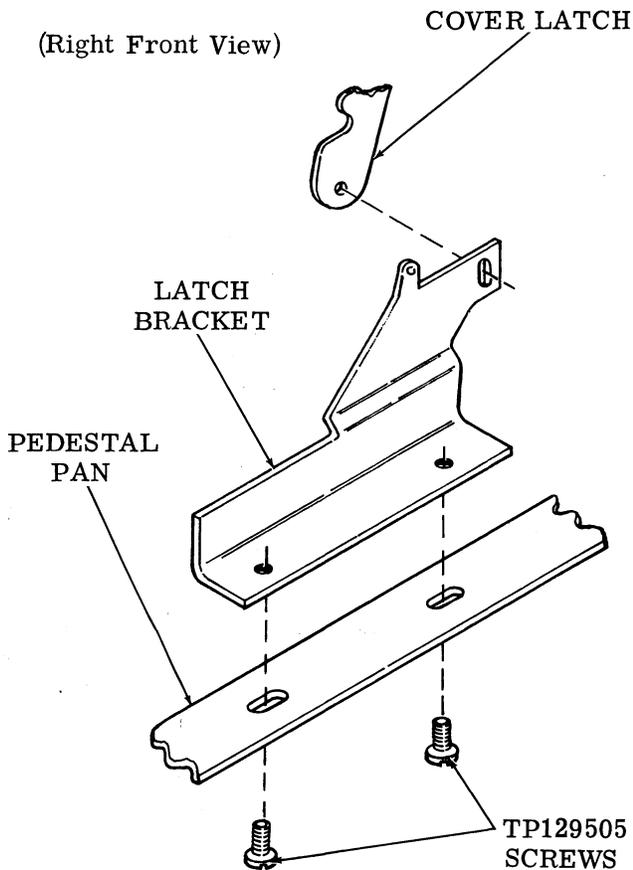

Figure 1 - Cover Latch Assembly
3.04 Remove two (2) TP192274 pan head screws which secure the cover latch and replace them with two (2) shorter TP129505 screws (Figure 1).